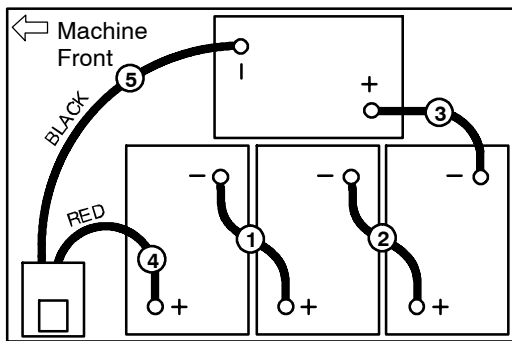

FIG. 4
- Carefully install batteries into compartment and arrange battery posts as shown (Figure 4).
- Connect terminals to battery posts in numerical order as labeled, RED TO POSITIVE & BLACK TO NEGATIVE (Figure 4).
- Turn main power switch on (I) and check battery meter charge level to ensure batteries are fully charged. If batteries need charging, see CHARGING BATTERIES.